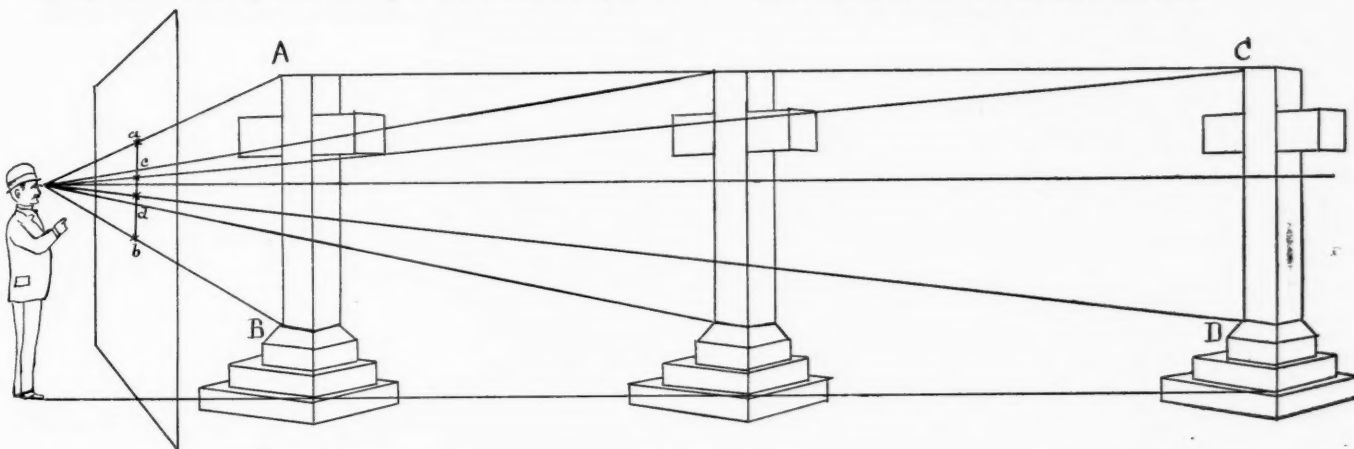

FIG. 99.
84. It has been remarked (Section 71) that a correct perspective would be obtained by joining with lines the points where visual rays pierce the plane of the picture. These rays are shown in Fig. 99 (reproduced from the June issue of THE INLAND ARCHITECT). The visual ray from the top of the nearest cross pierces
Now, since Figs. 99, 104 and 105 represent general principles applicable to any conceivable line of vision and every conceivable system of parallels, we find by the geometric process of tracing the paths of visual rays to the eye that the perspective of any receding line must be drawn toward that point where a line of vision parallel to it pierces the picture plane. If the receding line be normal to the picture plane (Section 74) this point is the point of sight; if oblique, the point is an oblique point of sight, or vanishing point (Section 79).